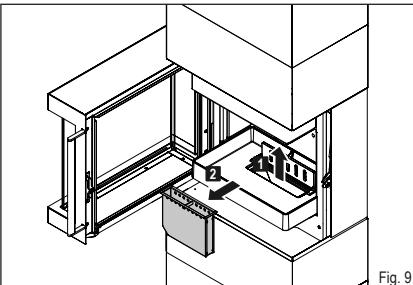

Fig. 9
- ▶ Pull the ash drawer out of the opening by the handle (Fig. 9).